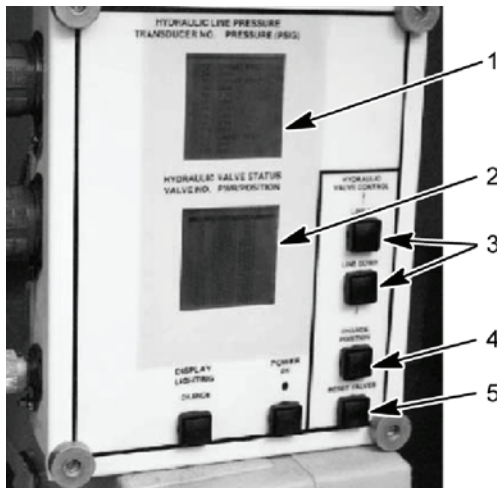
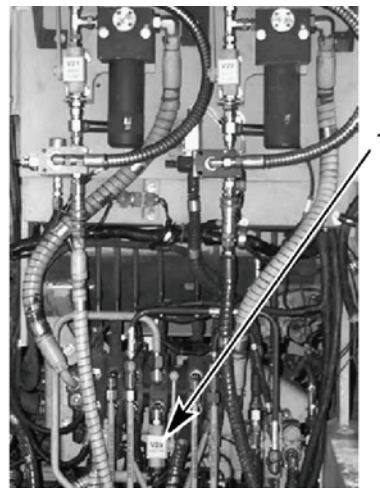

Figure 44. HDC Control Box
Figure 45. DCV Bank
- Disable ejector; manually close V23 (Figure 45, item 1) on the DCV bank. Using LINE UP or LINE DOWN button (Figure 44, item 3), select V1 on the HDC display (Figure 44, item 2). Close V1 on the HDC display (Figure 44, item 2) by selecting the CHANGE POSITION button (Figure 44, item 4) on the HDC control box.
- Using LINE UP or LINE DOWN button (Figure 44, item 3), select V17 on the HDC display (Figure 44, item 2). Close V17 on the HDC display (Figure 44, item 2) by selecting the CHANGE POSITION button (Figure 44, item 4) on the HDC control box.
- As assistant holds APRON CONTROL lever in the UP position, loosen jam nut (Figure 46, item 1) while observing transducer T-1 hydraulic pressure on the HDC display (Figure 44, item 1).
- Manually open V23 (Figure 45, item 1) on the DCV bank. Using LINE UP or LINE DOWN button (Figure 44, item 3), select V1 on the HDC display (Figure 44, item 2). Open V1 on the HDC display (Figure 44, item 2) by selecting the CHANGE POSITION button (Figure 44, item 4) on the HDC control box. Using LINE UP or LINE DOWN button (Figure 44, item 3), select V17 on the HDC display (Figure 44, item 2). Open V17 on the HDC display (Figure 44, item 2) by selecting the CHANGE POSITION button (Figure 44, item 4) on the HDC control box.